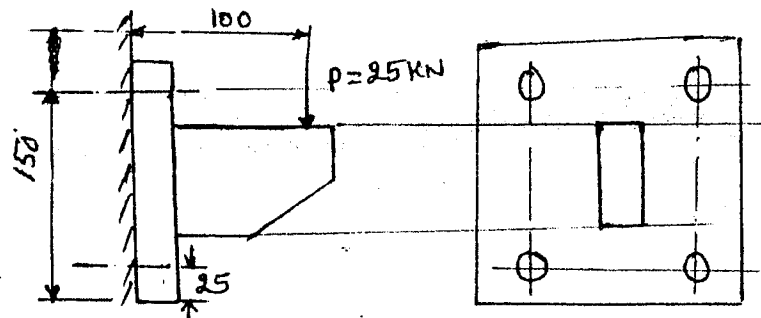

Fig.4(b)
- b. A bracket is fixed to the wall by means of four bolts and loaded as shown in Fig.4(b). Calculate the size of the bolts if the load is 25 kN and the yield stress is 380 N/mm^2 . The factor of safety is taken as 2.5. Use maximum shear stress theory. (10 Marks)